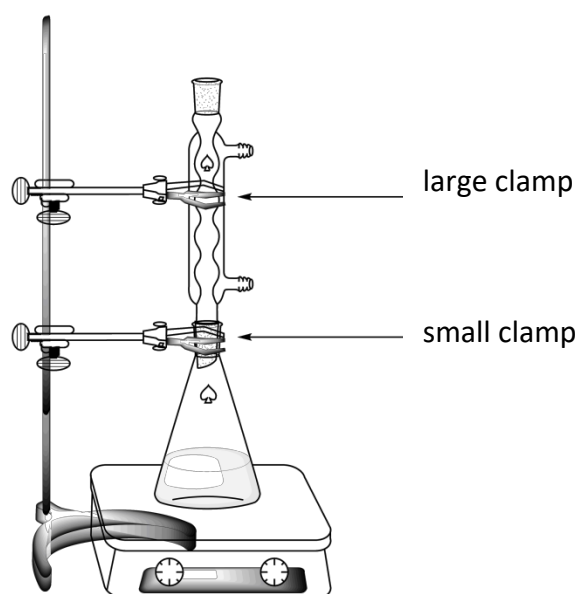

Figure 1. Setup for heating the reaction mixture under reflux
- To assemble the reflux setup, **loosen** the large clamp, **fit** the reflux condenser into the ground-glass joint of the Erlenmeyer, and **re-tighten** the large clamp (see Figure 1). **Raise** your HELP card. A lab assistant will come to turn on and set the hotplate as well as the water.
2. For safety reasons, **use** the same setup as for the reflux (see Figure 1) to **recrystallize** the crude product in the 50-mL Erlenmeyer flask. **Raise** your HELP card. A lab assistant will come to turn on the water and set the hotplate. **Add** the appropriate amount of water/ethanol mixture (step II.1) through the top of the condenser.